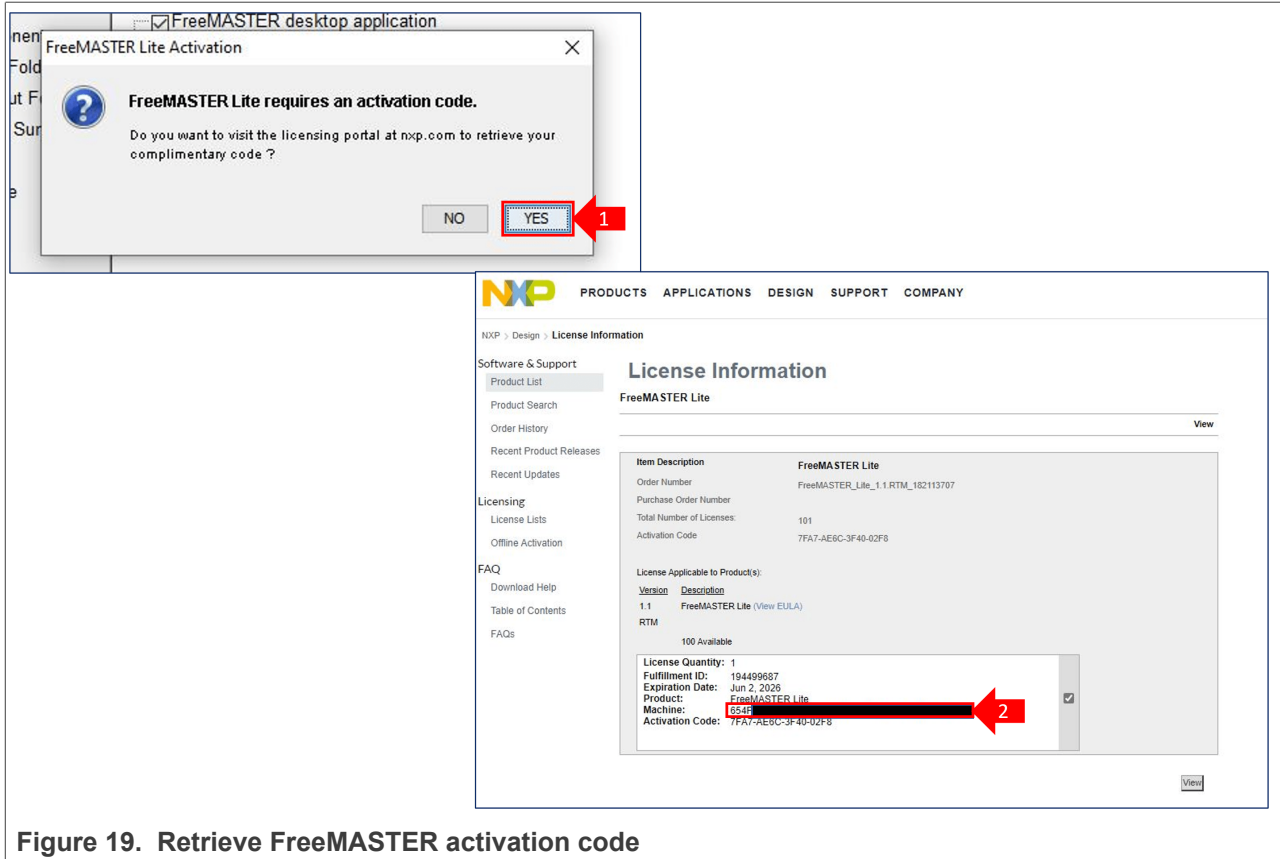

Figure 19. Retrieve FreeMASTER activation code
3. During installation, an activation code is requested to activate FreeMASTER Lite. Retrieve the activation code as shown in Figure 19: